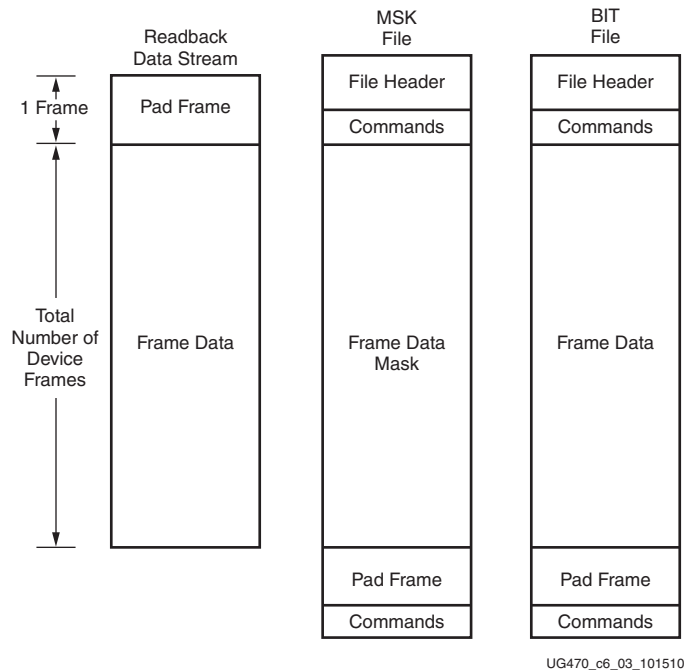

Figure 6-3: Comparing Readback Data Using the MSK and BIT Files
2. Compare readback data to the configuration BIT file, mask using the MSK file (see Figure 6-3).